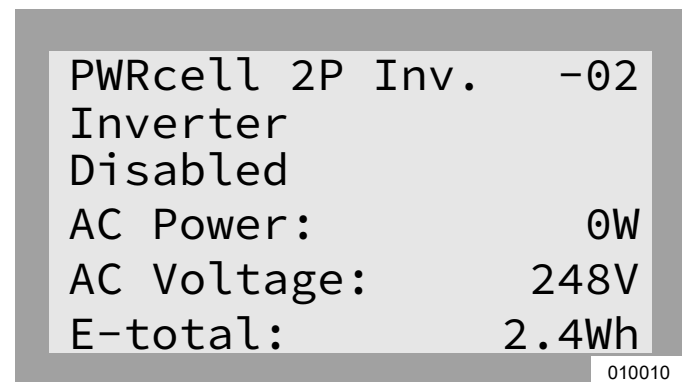

Figure 6-7. Enabling Inverter (1 of 4)
1. See Figure 6-7. Use the right arrow key to scroll the inverter device page.